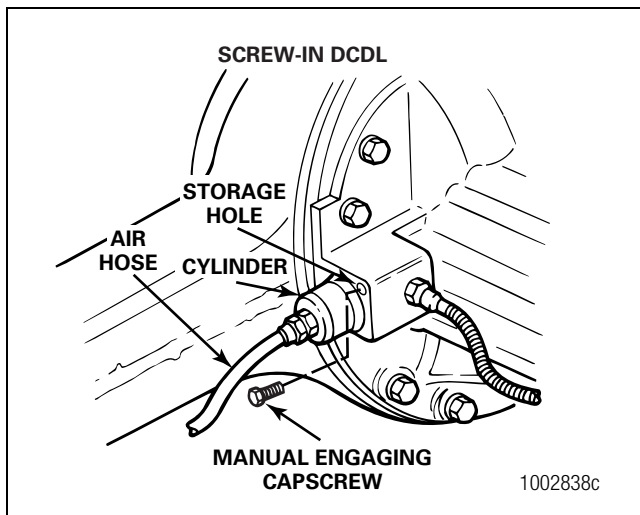
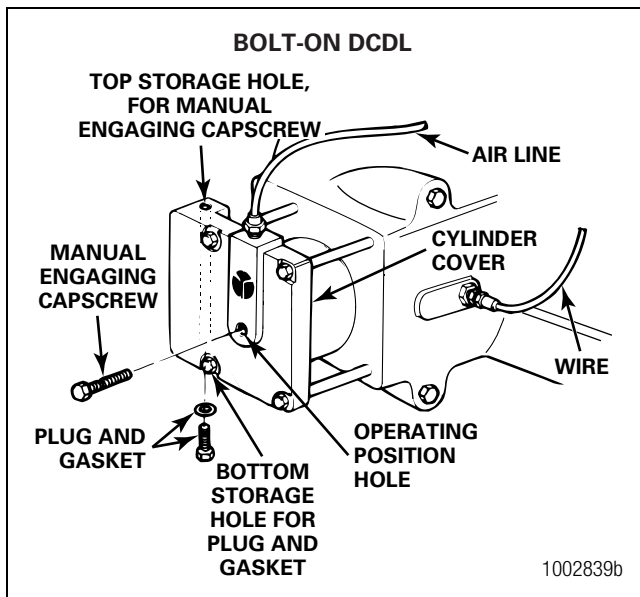

Figure 6.2
Figure 6.3
If an auxiliary air supply is not available or if the differential carrier is to be stored for later use, use this manual engaging method for the DCDL. Figure 6.2 and Figure 6.3.
8. Remove the manual engaging capscrew from the top storage hole in the cylinder cover or the shift tower of the carriers with the threaded type shift assembly. Figure 6.2 and Figure 6.3.
NOTE: For a bolt-on DCDL shift assembly, the storage hole for the plug and gasket is the opposite end of the storage hole for the manual engaging capscrew. Figure 6.3.